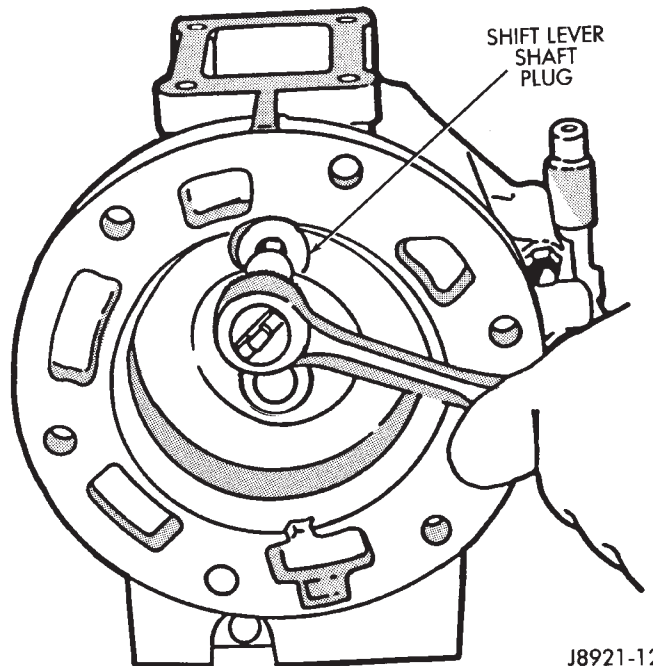

Fig. 25 Removing Shift Lever Shaft Plug
- (12) Remove shift lever shaft plug (Fig. 25).